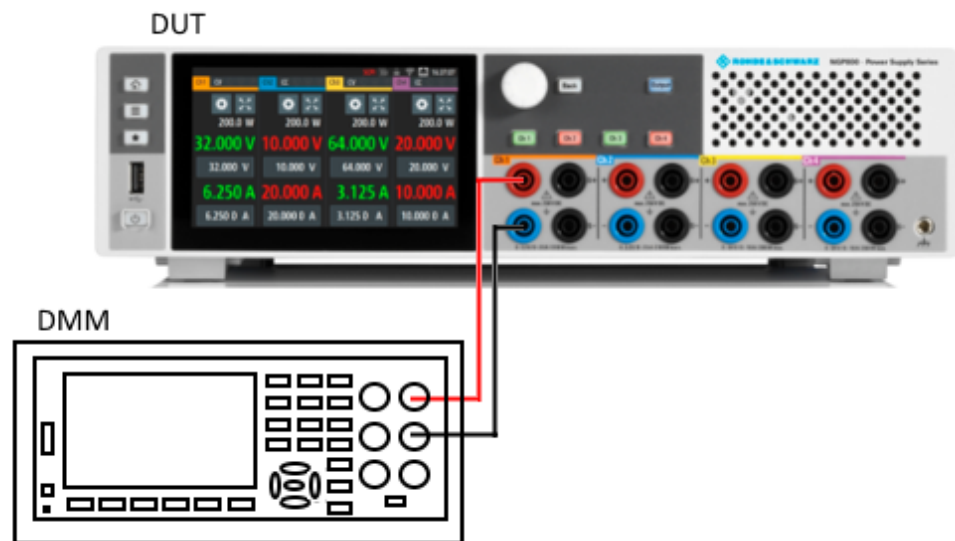
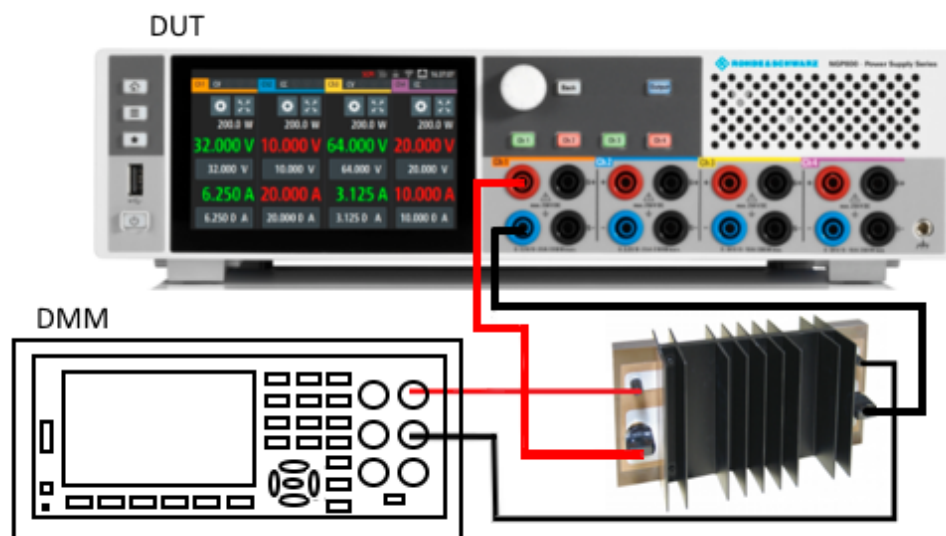

Figure 7-71: Voltage adjustment setup
Figure 7-72: Current adjustment setup
- Connect the DMM to the instrument and monitor the measured voltage or current. See Figure 7-71 and Figure 7-72.
- Depending on the types of adjustment (voltage or current), setup the instruments illustrated in Figure 7-71 or Figure 7-72.